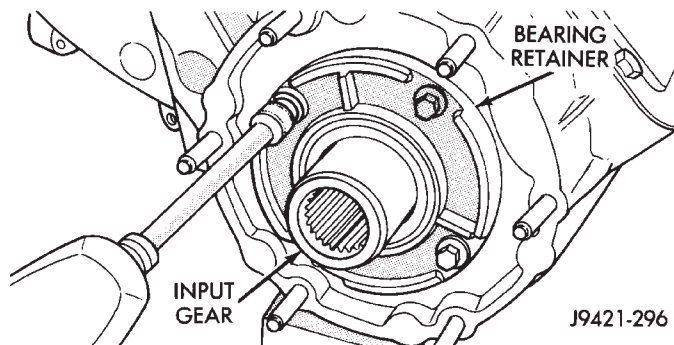

Fig. 37 Removing Input Bearing Retainer Bolts
(1) Remove input bearing retainer bolts (Fig. 37). A 10 mm socket is required.